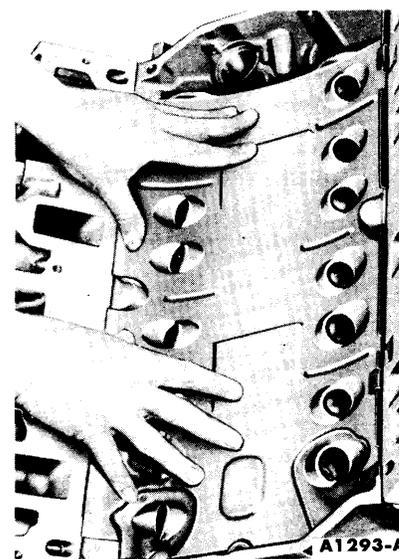

FIG. 87—Baffle Plate Installation
40. Position the baffle plate in the valve push rod chamber. Press it into place (Fig. 87).